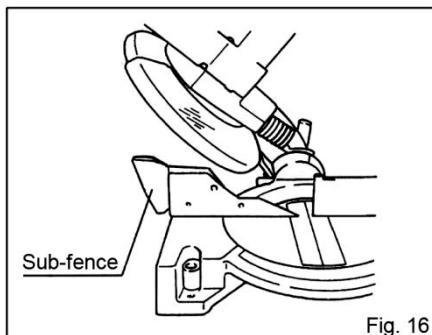

Fig. 16
- The saw blade can be tilted at 45° to the left only when the sub-fence locates at the left position as shown in Fig. 16 (refer to the instructions of "Sub-fence").
Be sure to flip the fence over to the left position when performing left bevel cuts. (**Fig. 16**)